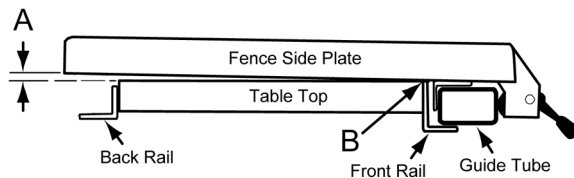

Figure 16
2. View the fence from the left side of the saw (Figure 16). Look for the space *between the table and the fence bottom* to be equal along the entire length of the fence (A, B, Fig. 16).